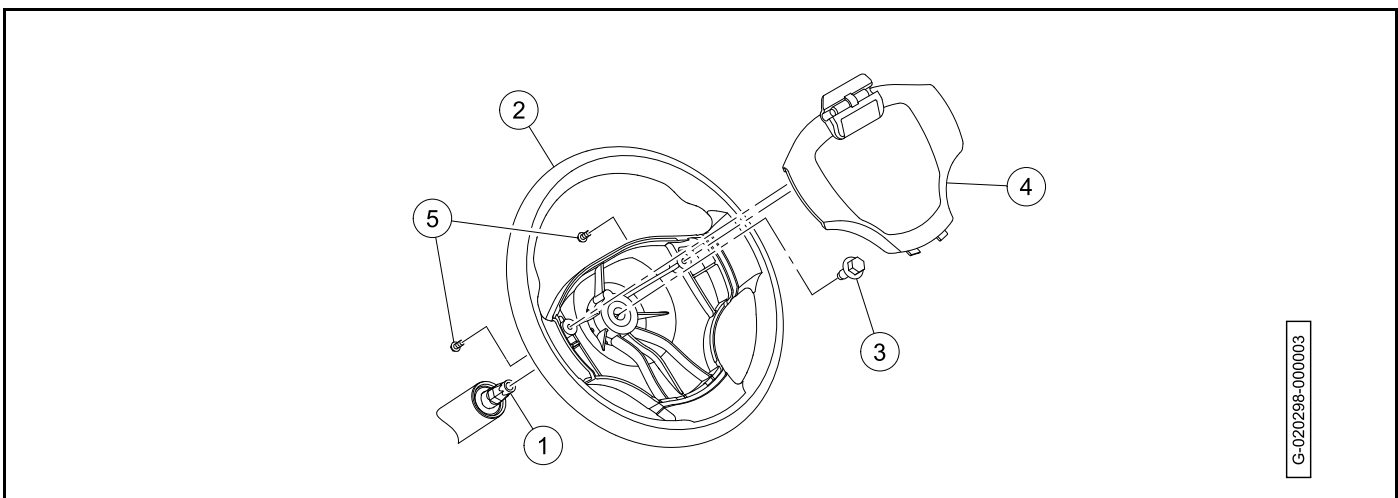

Figure 7-2
1. Apply a small amount of oil or anti-seize compound to steering shaft (1) (Figure 7-2).